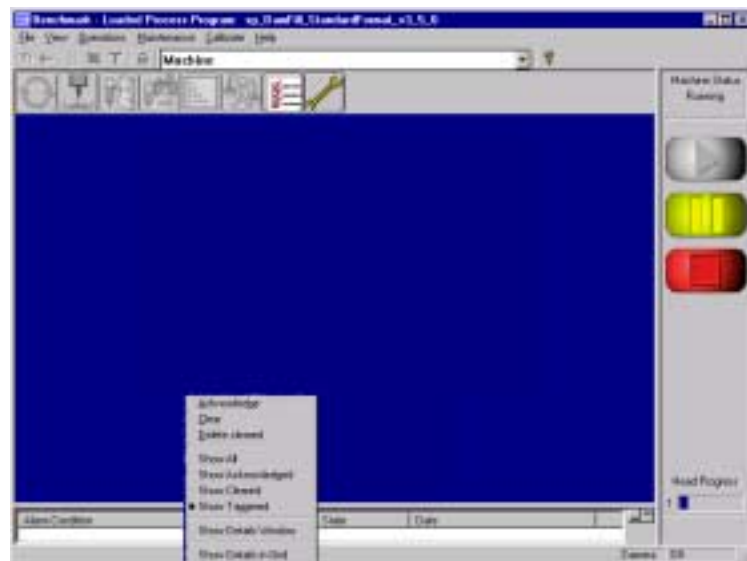

Figure 2-4
2. Alternately click right on the alarm entry and select **Show Details Window** from the popup menu. See Figure 2-4.